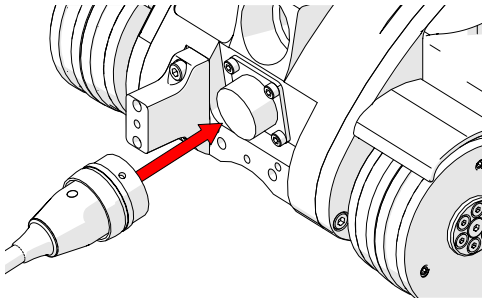

Fig. 91 - Connect to umbilical
1. Align the pins of the umbilical to the connector at the rear of the **SKOOT** (Fig. 91).